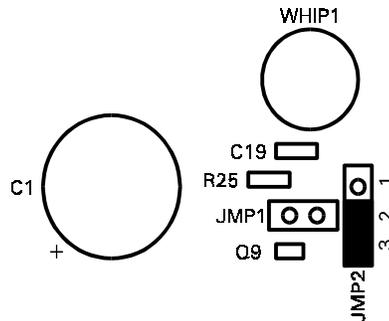

Figure 4
When JMP1 is "on" or active (Figure 3), the internal whip is not used and maximum external amplifier gain is selected. When only JMP2 is "on" or activated (Figure 4), external AUXILIARY ANTENNA gain is moderate. In both of these cases, the PRE-AMP switch either inserts (ON) or bypasses (OFF) the internal pre-amplifier (consisting of Q9 and Q10).
For moderate sensitivity, JMP2 must be activated. To activate JMP2 remove the shorting clip from previous position and place it across pins 2 and 3 of JMP2 (see Figure 4).